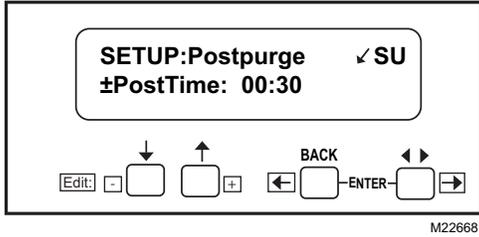

Fig. 13. Setting Postpurge time.
- "Getting Data" will be momentarily displayed, followed by the screen shown in Fig. 13.